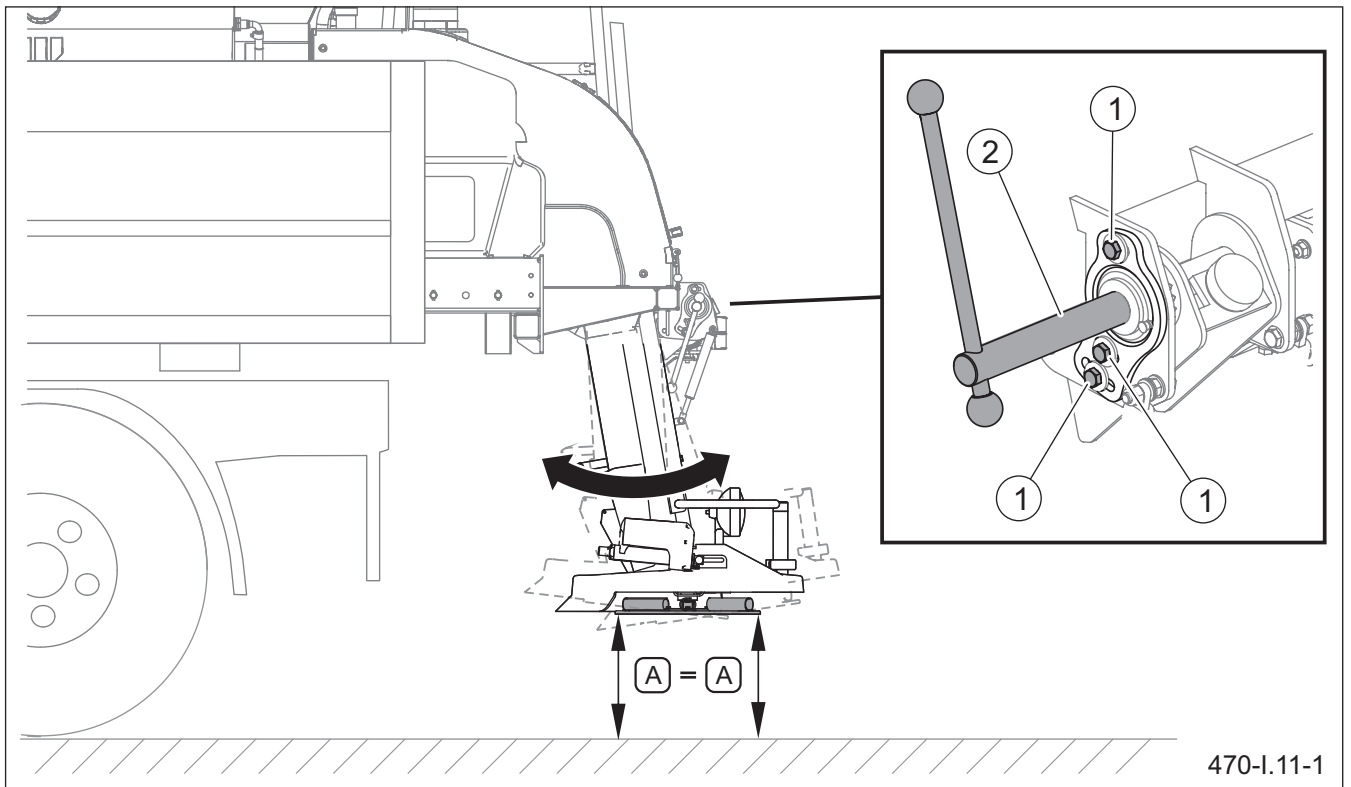

Figure 5.11 Levelling the spreading disc
- loosen clamp bolt (2),
- lower the mechanism while holding grip (3),
- tighten clamp bolt (2).
During operation, the spreading disc should be levelled (Figure 5.11) To check that the spreading disc is level, measure the distances between the disc and the ground in two extreme points (A) to confirm that the distances are the same (Figure 5.11). Otherwise, make adjustment as follows:
- check that clamp bolt (2) is tightened,
- loosen three bolts (1),
- Tighten fixing bolts (1) – (figure 5.11).